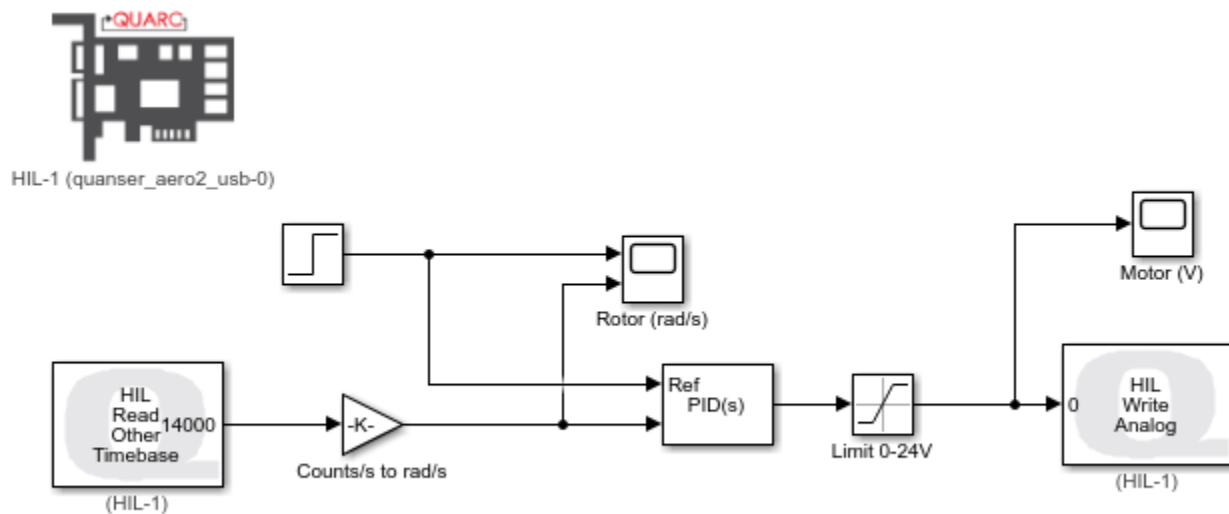

Figure 3 - Simulink/QUARC model used to run the PI control on the Aero 2.
The *q_aero2_rotor_pi* Simulink model shown in Figure 3 is used with QUARC to run the PI rotor speed control on the Aero 2 system. The QUARC *HIL Write Analog* applies the controller output voltage to the front rotor motor and *HIL Read Other Timebase* block measures the rotor propeller angular speed using the digital tachometer. The reference or commanded and measured rotor speed are displayed in the *Rotor Speed (rad/s)* scope and the motor voltage is shown in the *Motor (V)* scope.